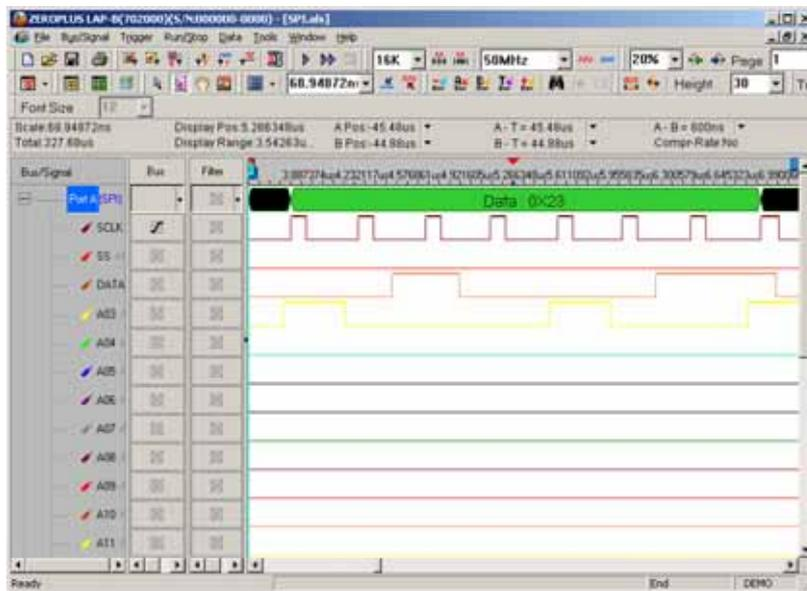

Fig 4-86 – SPI Signal
**Step 6.** Click **Run** to acquire the SPI signal from the tested SPI circuit. Refer to the Fig 4-86.